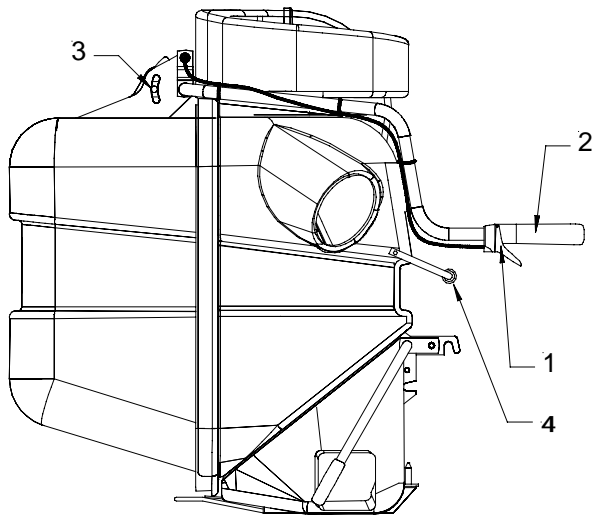

Figure 10
1. Stop the mower, if the mower is turning it is impossible to open the back of collector due to vacuum inside. Unlock the dumping arm from it's working position and raise it completely. The locking pin will drop into a hole in the highest position. Pull dumping arm down to unlock and raise the back of the collector. To close and lock , raise dump arm to highest position and depress latch to release pin. Lower dump arm to working position (fig. 10).